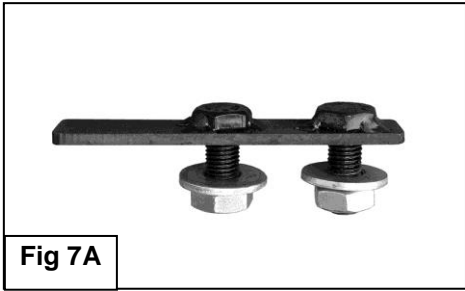
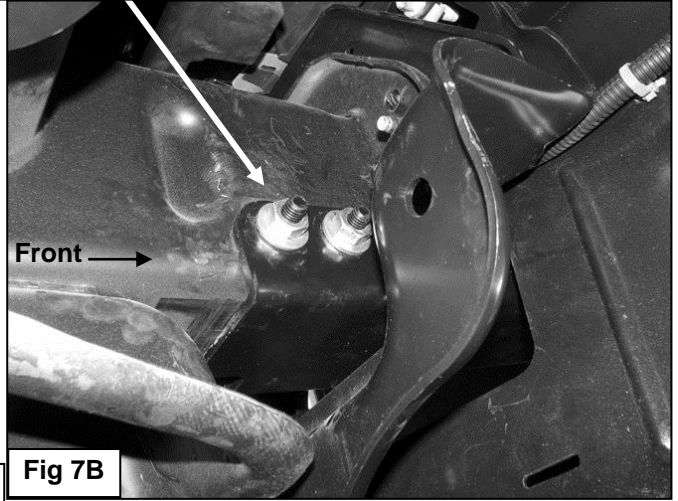

Fig 7A
Fig 7B
3. Select (1) 12mm Double Bolt Plate, (**Figure 7A**). Insert the Bolt Plate into the end of the frame, through the (2) holes in the side of the frame and out through the Bracket. Secure the Bracket to the Bolt Plate with (2) 12mm Flat Washers, (2) 12mm Lock Washers and (2) 12mm Hex Nuts, (**Figure 7B**). Snug but do not fully tighten hardware at this time. Repeat this **Step** to install the 12mm x 35mm Single Bolt Plate, (**Figure 8A**), into the remaining hole in the other side of the frame channel and Bracket, (**Figures 8B & 8C**).